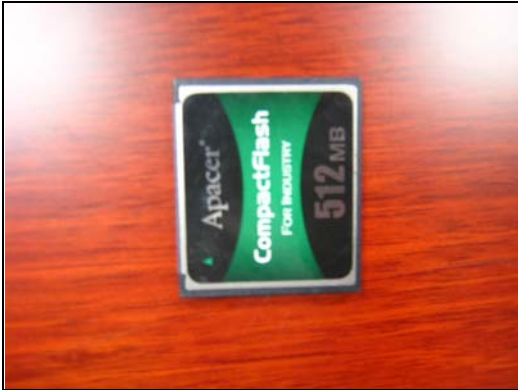
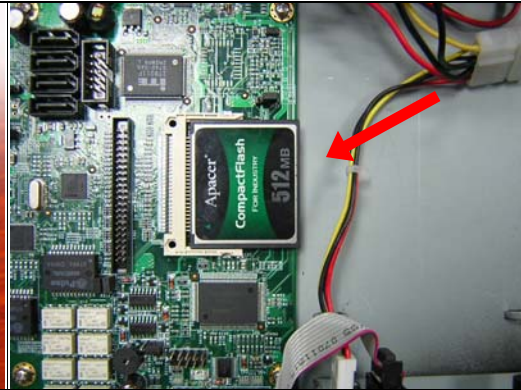

Fig. 7-1 Compact Flash Card
Fig. 7-2 Insert Compact Flash Card into the CF interface
1. Insert the Compact Flash Card (**Fig. 7-1**) into the CF interface (**Fig. 7-2**).